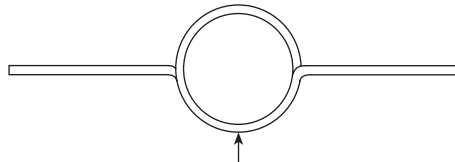

Fig. 11 Checking wires
2. Remove probe (if installed) and fit a pair of checking wires (see Figures 11 and 12) to the end of the probe tip, 90° relative to each other and a maximum 10 mm ( $\frac{3}{8}$ ") from the tip end - see Figures 11 and 12.